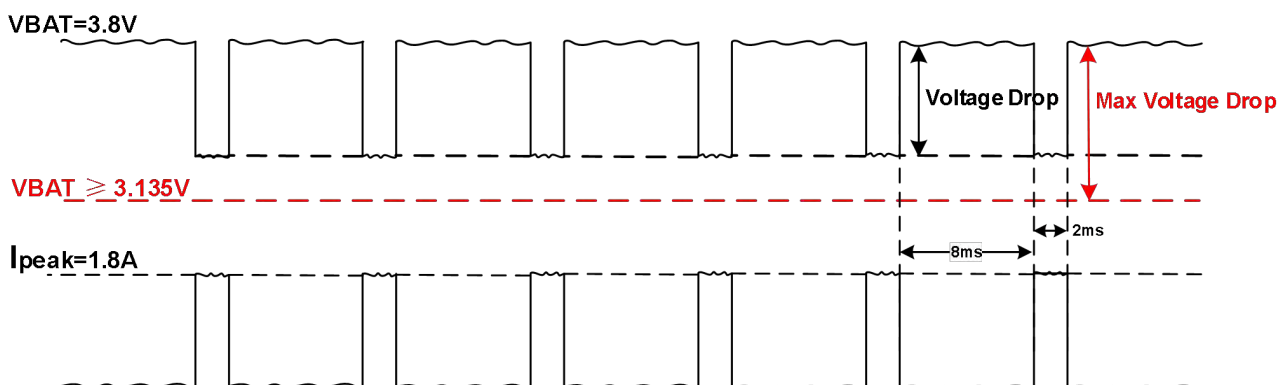

Figure 4: Power consumption at ENDC combination of B3 (20MHz) and N79 (100MHz)
2. The I_{peak} and voltage drop data in Table 6 and Figure 4 were tested use SIMCom EVB and connect instrument, module power supply voltage is 3.8V, ENDC combination is B3 (20MHz) and N79 (100MHz), subcarrier spacing is 30KHz.